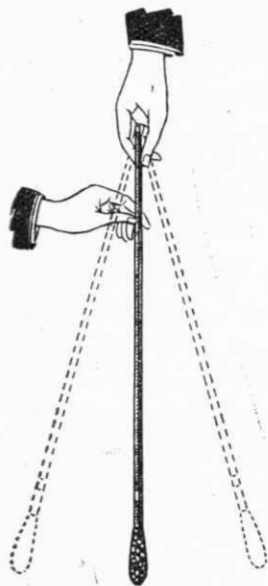
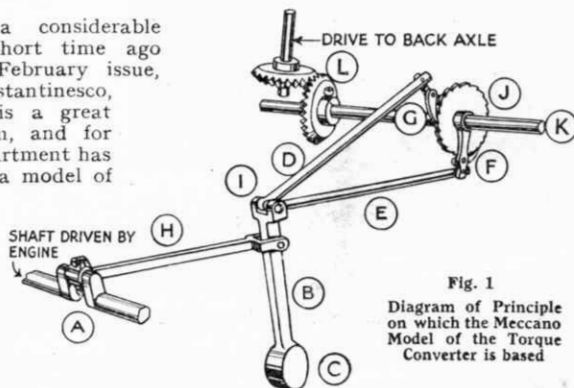

Fig. 2
Fig. 1
A diagram of the working of the model is given in Fig. 1. The crank (A) driven by the engine, is connected to a lever (B), to the lower end of which is fixed a heavy weight (C) forming a pendulum. The other end of the lever (B) is connected to two rods (D and E) carrying pawls (F and G) which bear on a ratchet wheel (J). In this manner the torque, or twisting effect, is delivered to the rod (K) and through it by bevel gears and shaft (L) to the differential on the back axle (not shown in the diagram). No matter whether the rods (D and E) be pushed towards the ratchet or pulled away from it, the turning motion imparted by the pawls to the rod (K) is always constant in direction.
our readers will obtain a clearer idea of the working principle of the Torque Converter by taking a walking stick with a heavy knob and suspending it with the knob downwards, as shown in Fig. 2. With the left hand take hold of the stick a few inches below the tip and swing it gently to and fro. Notice that it swings evenly and pivots in the thumb and finger of the right hand. As long as the impulses given to the stick by the left hand are not excessive, the swinging of the stick will be easy and pendulum-like. If the frequency of the impulses be increased, however, a different state is set up, as is evidenced by an increase in pressure conveyed to the right hand acting as a pivot for the stick. As the impulses increase in frequency, a change in equilibrium takes place. Instead of the stick tending to pivot between the finger and thumb of the right hand, the pivot shifts down the stick, until at last—given a sufficiently high frequency—it moves to the opposite end of the stick and the heavy knob at the end of the stick becomes the pivotal point, while the pendulum-like movements are now carried out by the hand in which the stick originally pivoted.
Our readers will obtain a clearer idea of the working principle of the Torque Converter by taking a walking stick with a heavy knob and suspending it with the knob downwards, as shown in Fig. 2. With the left hand take hold of the stick a few inches below the tip and swing it gently to and fro. Notice that it swings evenly and pivots in the thumb and finger of the right hand.
This is the principle on which the Constantinesco Torque Converter is based, and the Meccano model works on the same principle. In it the hand moving the stick is replaced by the connecting rod (H Fig. 1) coupled to a crank (A). The place of the hand forming the pivot is taken by the bolt (I) which carries the rods (D and E) in our diagram. Impulses from the crank are transferred to the pawls (F and G), which in turn pass on the impulses—now converted into a turning movement—to the driving shaft.
The conditions of our analogy in Fig. 2 are simulated when the weight (C Fig. 1) swings without imparting any movement